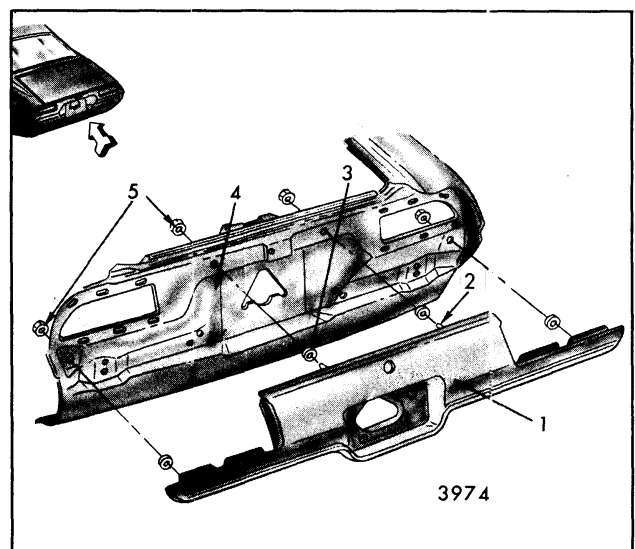

Fig. 7-34-Rear End Finishing - Pontiac "F" Styles
The rear end finishing panel is made of molded glass fiber plastic and retained by four attaching studs and nuts (Fig. 7-34).
2. Remove four rear end finishing panel retainer nuts, and remove panel from body (Fig. 7-34).